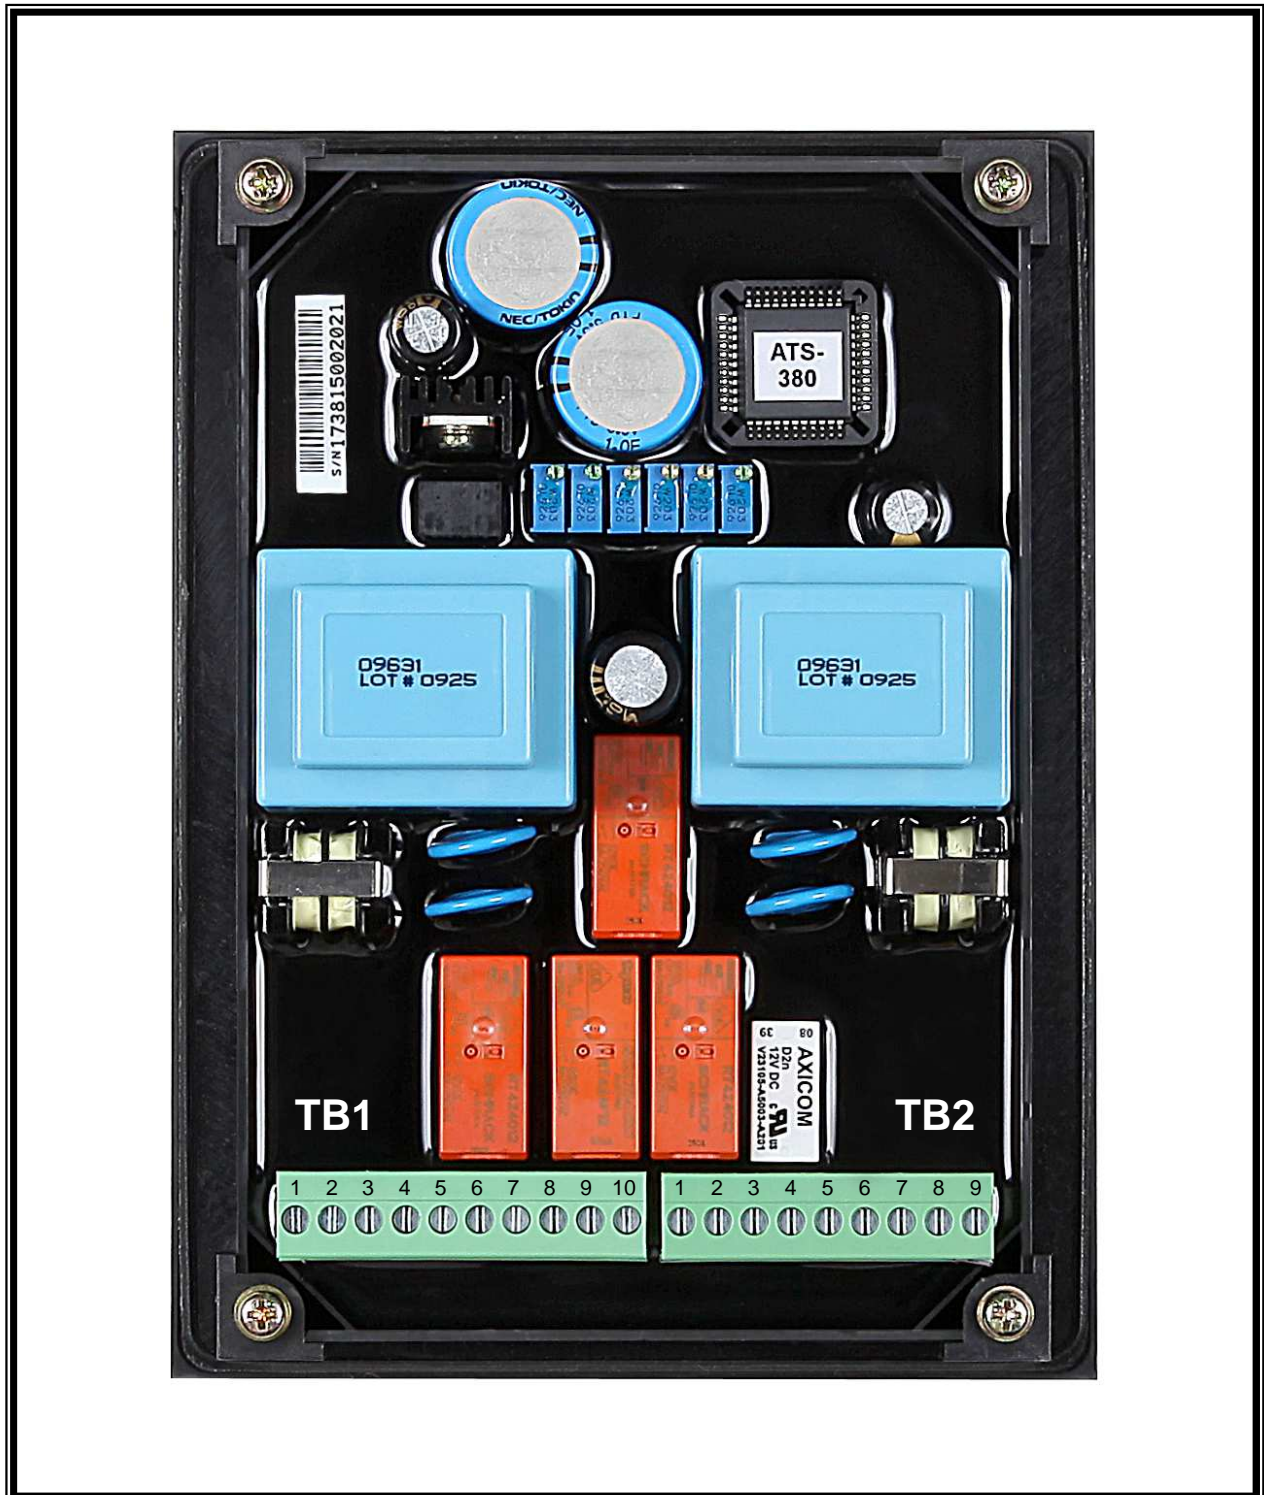

Figure 2
2.5 Rear Access Area (Refer to Figure 2)